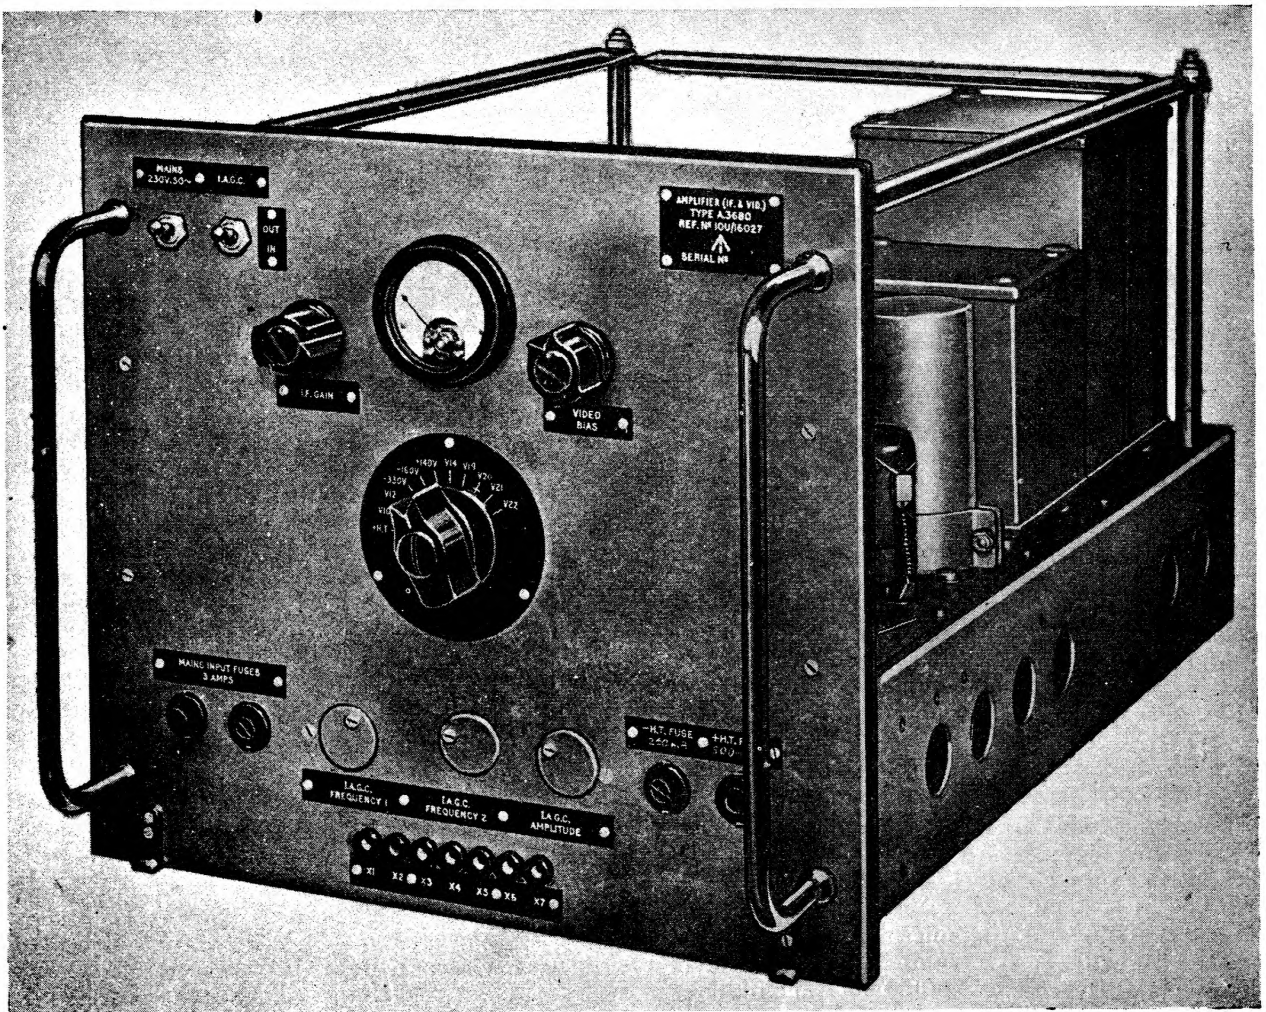

Fig. 1. Front view
2. Front and plan views of the unit are shown in fig. 1 and 2 respectively. An under-chassis view is given in fig. 3 and a circuit diagram in fig. 4. The schematic and idealized waveforms are shown in fig. 5.